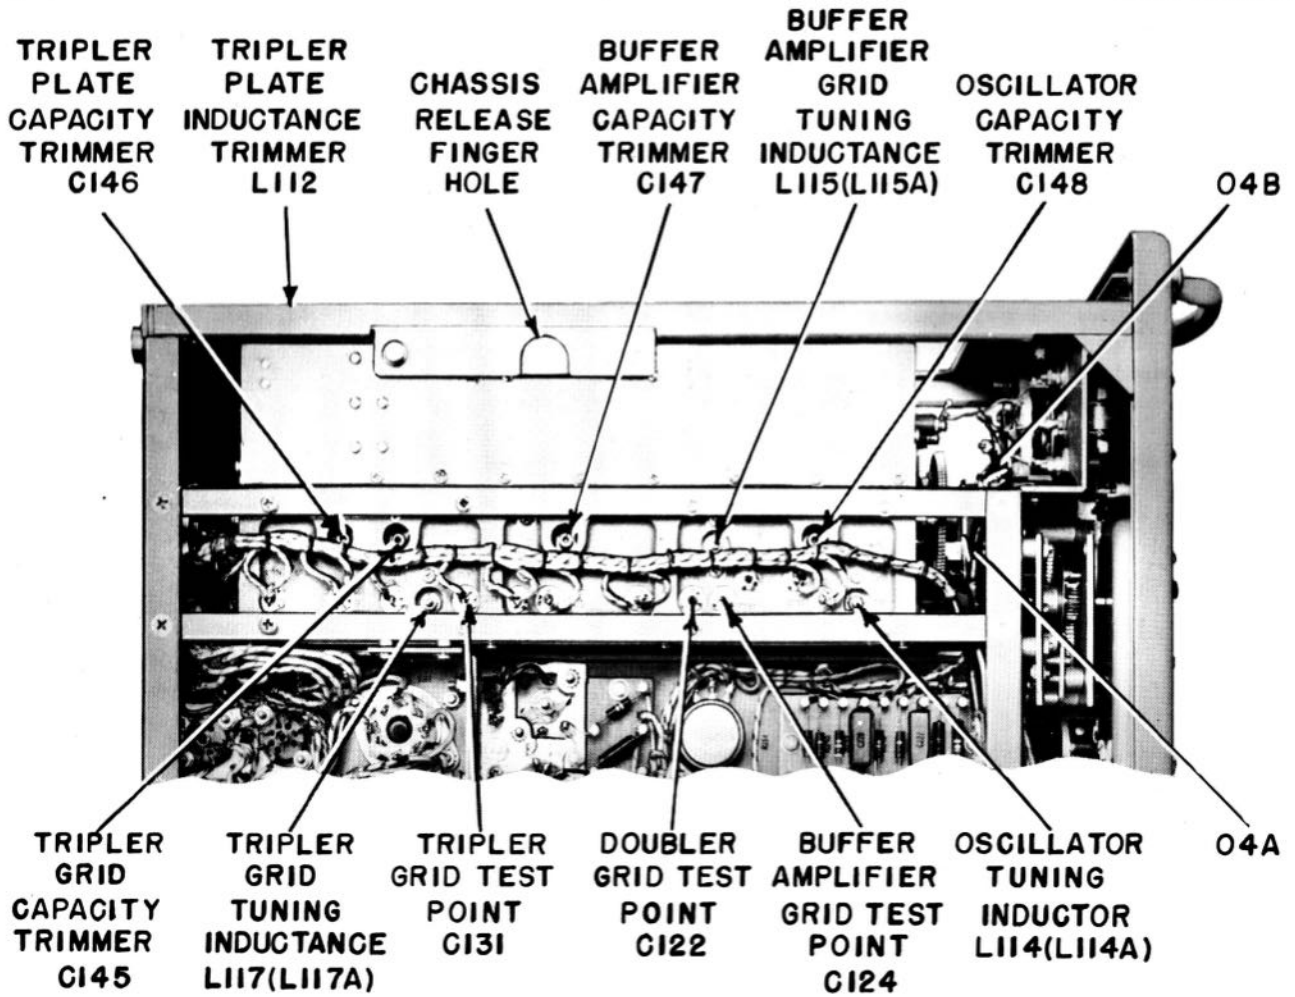

Figure 7-8. Preselector from Bottom of Chassis Showing Alignment Adjusting Screws
Conditions	Test Points (See Figures 7-8, 7-9, and 7-15)
(8) On bottom of chassis (figure 7-8): Note two similar rails holding preselector in place and detach rail nearer left side from rear panel and front panel sub-assembly, and rail farther from left side from preselector, in similar manner to step No. 6.
(9) Turn tuning crank until "150" appears in window marked MEGACYCLES; this should put the arms of the flexible coupling in a horizontal position.
(10) Withdraw preselector from chassis.